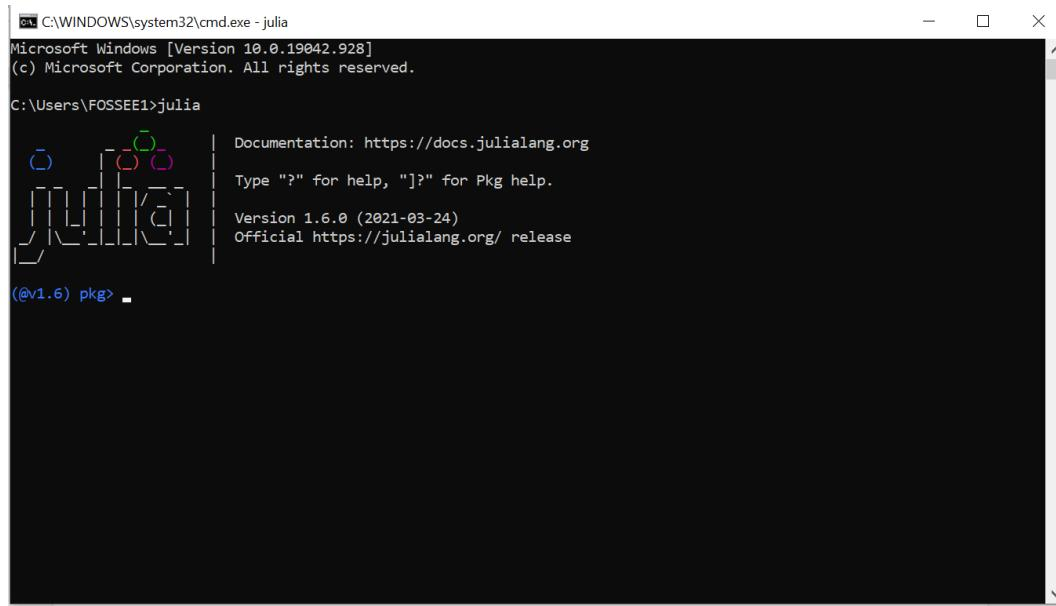

Figure 3.32: Windows command prompt to enter Pkg REPL in Julia
3. Now, we need to enter the `Pkg` REPL in Julia. From the Julia REPL, press `]` to enter the `Pkg` REPL. The moment you press `]`, you enter `Pkg` REPL, as shown in Fig. 3.32.